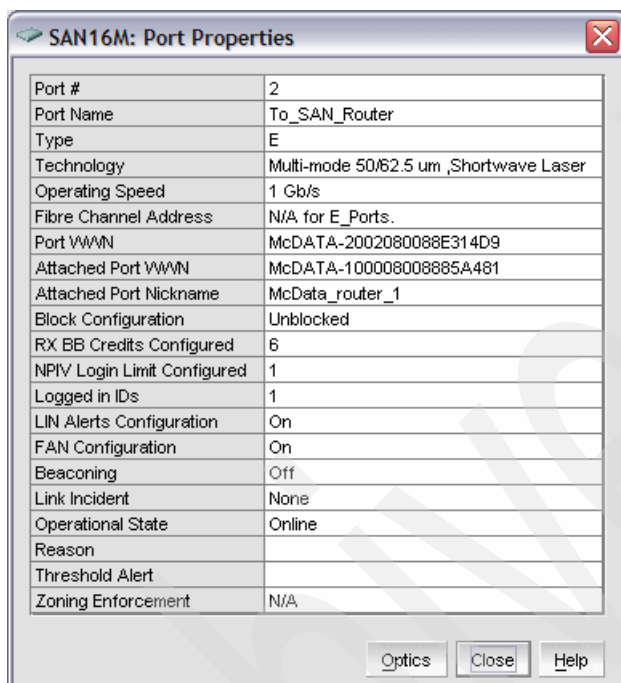

Figure 17-54 Switch E\_Port online
11. You can also check the status on the switch with the EFCM Element Manager, which should show the port as an E\_Port, as shown in Figure 17-54.